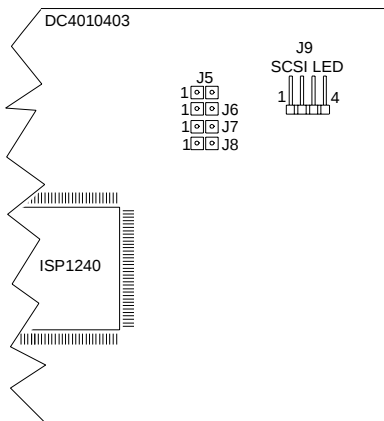

Figure B-6. QLA1240 Jumper Termination
In most cases, termination should be set automatically (see section A.2.1). Jumpers J5-J8 on the QLA1240 board manually set the termination (see figure B-6). Settings you make with these jumpers override all *Fast!*/UTIL or automatic termination settings.
- ☐ J7 and J8 (see figure B-6) set the termination on port one.
- ☐ J5 and J6 (see figure B-6) set the termination on port two.